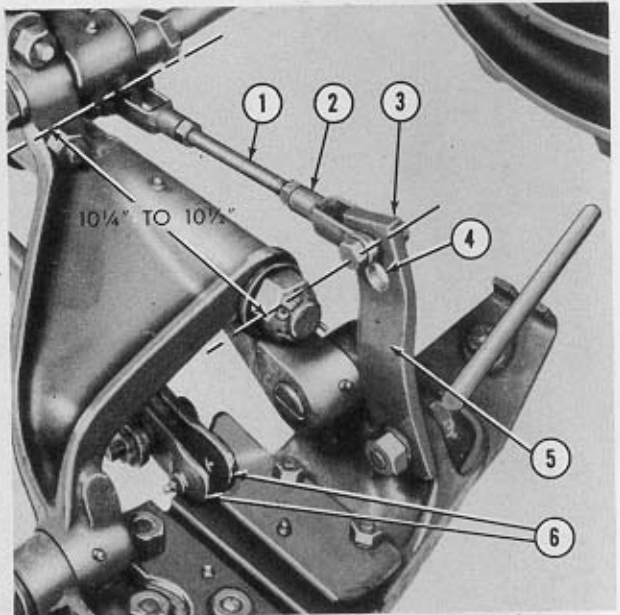

Figure 8
position the pitman arm so the clamp (6), Figure 8, is centered between the hinge pins and lower the cutter bar to the ground.
14. Turn the yoke (2), Figure 8, on or off the lift link (1) until the distance between the lift link yoke pins is between 10 $\frac{1}{4}$ " and 10 $\frac{1}{2}$ ". Attach the yoke (2) to the desired hole on the lift lever (5) with the spacer, $\frac{3}{8}$ " x 1 $\frac{3}{8}$ " bolt, lock washer and nut provided.
NOTE: The lift link yoke (2), Figure 8, should be attached in the lower hole (4) of the lift lever when a six-foot cutter bar is used. When a seven-foot cutter bar is used attach the lift link yoke in the top hole of the lift lever as shown in Figure 8.